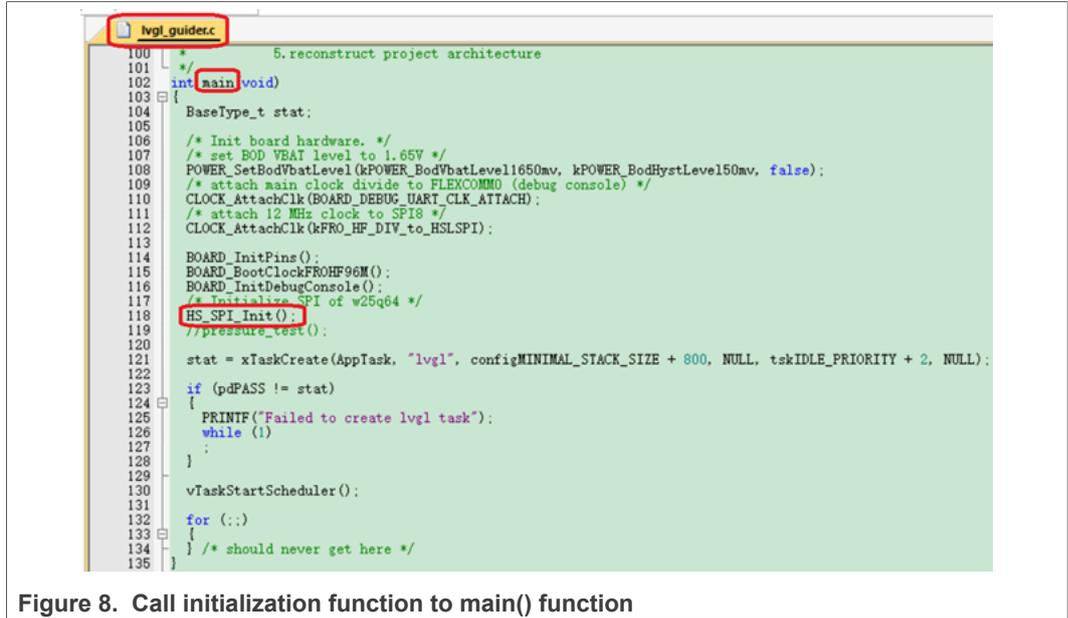

Figure 8. Call initialization function to main() function
4. Add a call to the initialization function for driving external serial flash to the main() function, as shown in Figure 8.